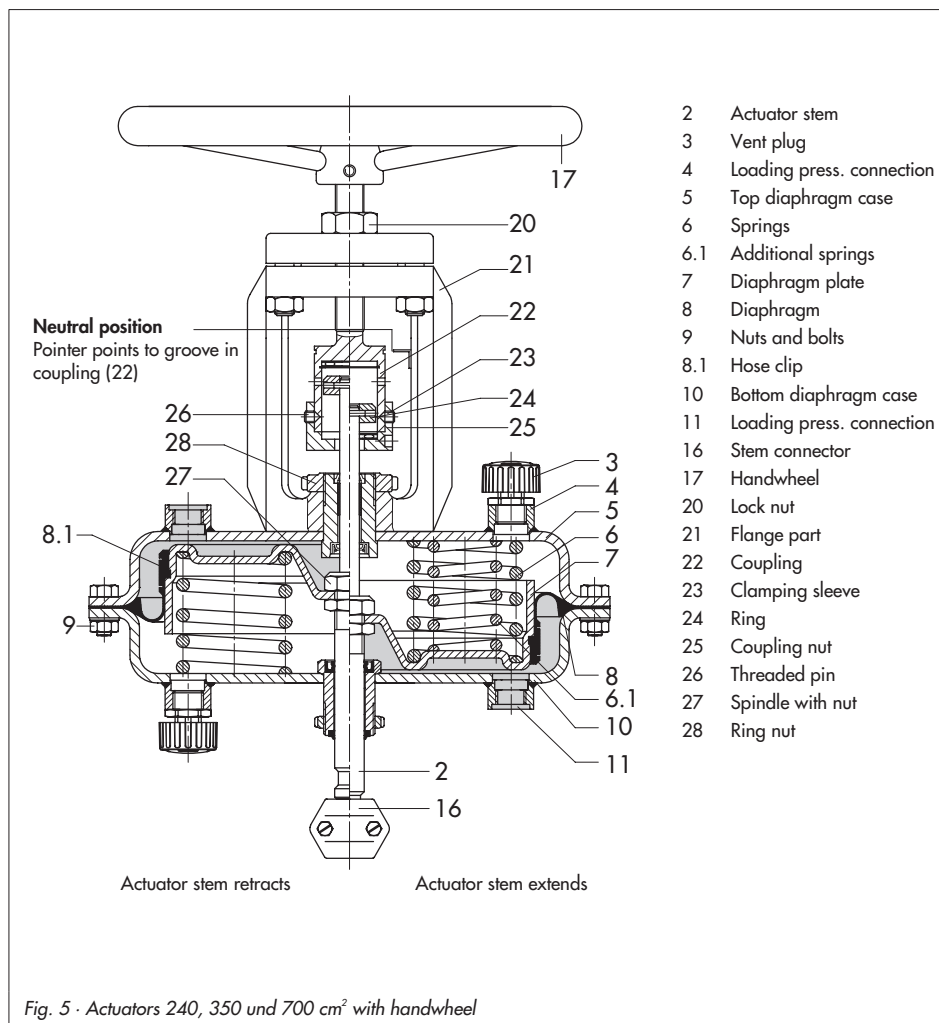

Fig. 5 · Actuators 240, 350 und 700 cm2 with handwheel
Actuators with an **additional manual override** (Fig. 5) have a handwheel that moves the actuator stem over a spindle after the locking mechanism (lock nut) has been disengaged. A side-mounted handwheel (Fig. 8) moves the stem over a bevel or worm gear.
**Note!** Only apply the loading pressure to the diaphragm chamber that does not contain the springs. It is important for a troublefree operation of the actuator that the vent plug (3) is not blocked. Make sure in versions with a handwheel that the plug stem can move freely when the valve is being positioned by the pneumatic actuator by moving the handwheel into a neutral position (Fig. 5 for 240 to 700 cm2 and Fig. 8 for 1400 and 2800 cm2).
240, 350 and 700 cm2 (Fig. 5) only